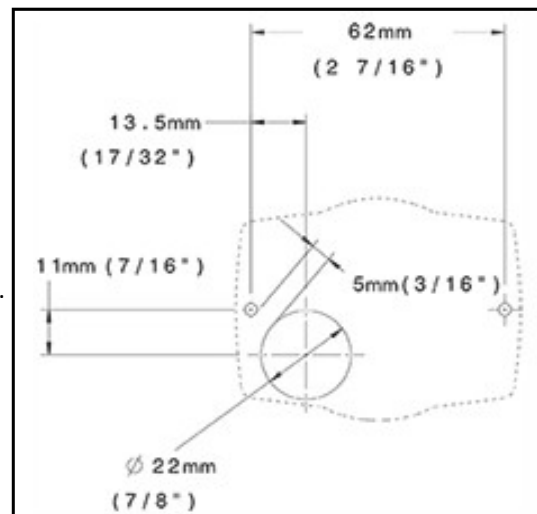

Figure 31. SmarTemp drilling dimensions
- Use the drilling dimensions (fig. 31) to lightly mark the two mounting holes.